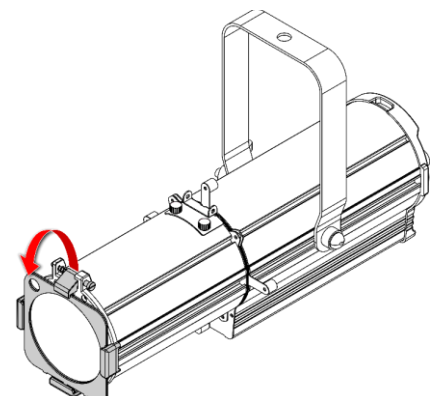

Fig. 12
- 04) Pull the **color frame clip (06)** downwards to release the **spring-loaded screw (07)** (see Fig. 12). The color frame will be locked in position.